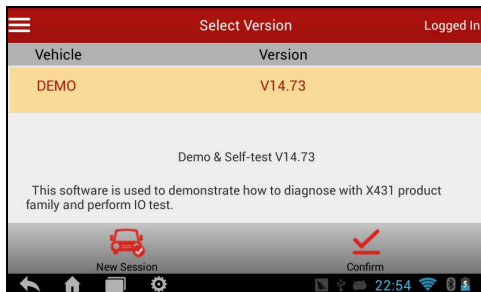

Fig. 5-9
1. Tap the "Demo" logo, the system will prompt you to select the diagnostic software version. See Fig. 5-9.